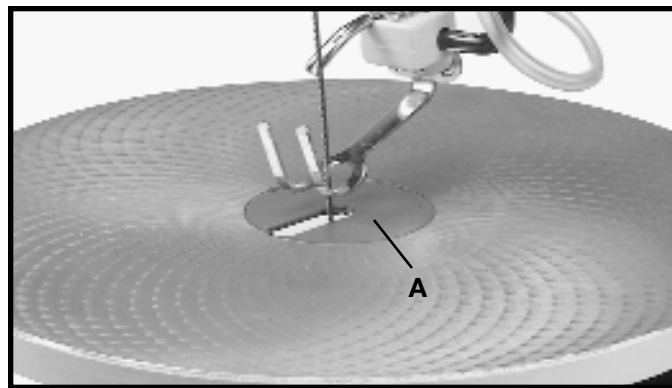
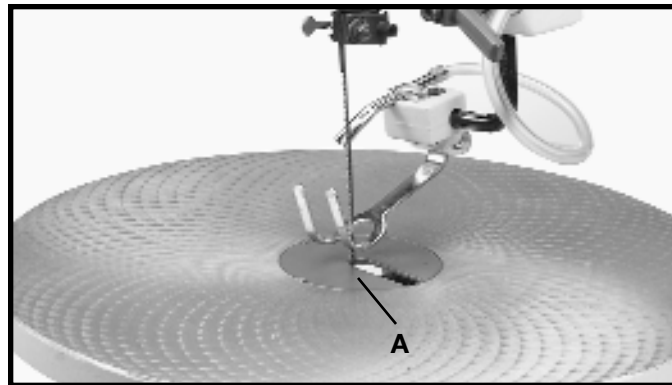

Fig. 19
Fig. 20
The table insert (A) can be assembled to the saw table with the opening in the insert pointing to the front of the table, as shown in Fig. 19, or to the right as shown in Fig. 20.
With the table in the level position, 90 degrees to the blade, the insert should be positioned, as shown in Fig. 19. This allows for the blade to be pivoted forward after it is unclamped from the top blade holder, enabling you to quickly insert the blade into the next hole in a pattern when doing inside-cutting.
When tilting the table for bevel cutting operations the insert (A) should be positioned as shown in Fig. 20. This allows for clearance of the blade when the table is tilting.